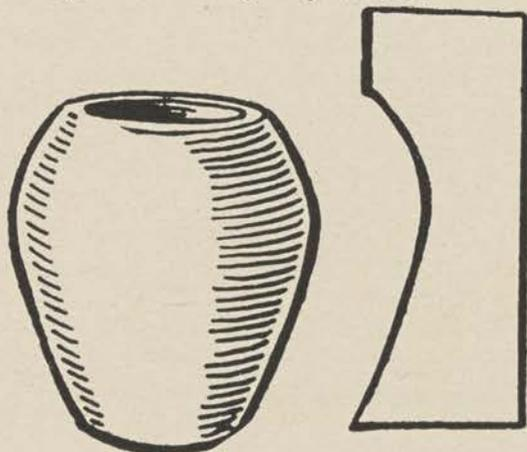

Figure 114.
*a.* The coil system of building pottery is the simplest way of forming round or cylindrical objects such as vases or bowls. The first step is to make a profile drawing of the object about 10 percent larger than the finished product to allow for shrinkage. From this, a template or pattern is made by tracing one half of the drawing on a piece of cardboard and cutting along the line showing the outside contour of the vase (fig. 114).